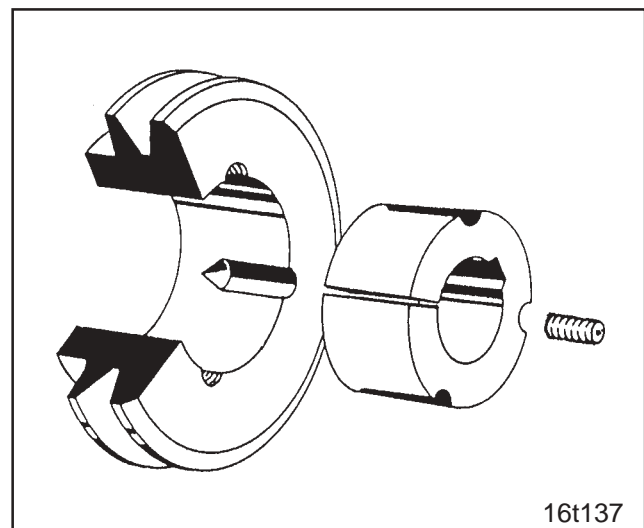

Fig. 6.23
- Turn out one bolt and bolt into the bore (Fig. 6.23)